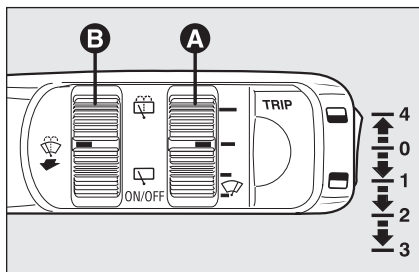

fig. 47
Right-hand stalk **fig. 47** controls windscreen washer/wiper and rear window washer/wiper operation.
The rain sensor is activated automatically moving the right-hand stalk to position **1-fig. 47** and it has a range of adjustment that gradually varies between wiper stationary (no wiping) when the windscreen is dry, to wiper at second speed (continuous, medium) with heavy rain.
Turning the knurled ring **A-fig. 47** it is possible to increase the sensitivity of the rain sensor, obtaining a quicker change from stationary (no wiping) when the windscreen is dry, to first continuous speed (continuous, slow). This action is confirmed by one wiping stroke.
Operating the windscreen washer with the rain sensor activated (stalk at position **1-fig. 47**) the normal washing cycle is performed at the end of which the rain sensor resumes its normal automatic function.
Removing the electronic key from the ignition device, the rain sensor is deactivated and the next time the engine is started it will not be reactivated even if the stalk has remained in position **1**-**fig. 47**. In this case to activate the rain sensor, simply move the stalk to **0** or **2** and then back to **1**.
**IMPORTANT** In the event of rain sensor failure, windscreen wiper operation with right-hand stalk at **1**-**fig. 47** is intermittent. If failure takes place during automatic operation, the system will keep the last wiper operating condition. Moving the stalk to other positions, operation is however guaranteed.
Turning the knurled ring **B-fig. 47** from **ON/OFF** to  obtains rear window wiper intermittent operation.